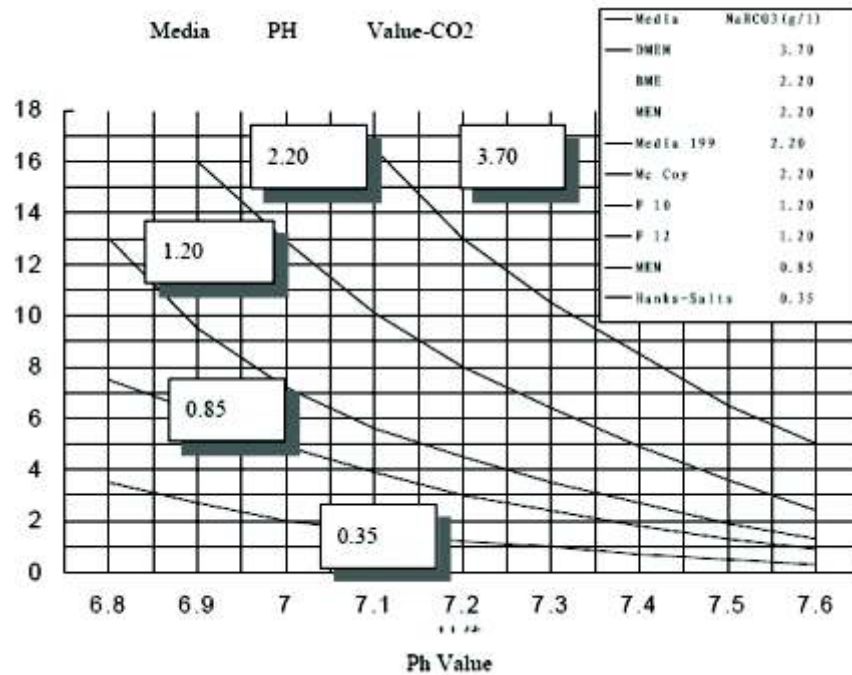

Fig. 11: pH value concentration of CO₂ inside the incubator
- pH value based on the concentration of CO₂ (refer to Fig. 11).